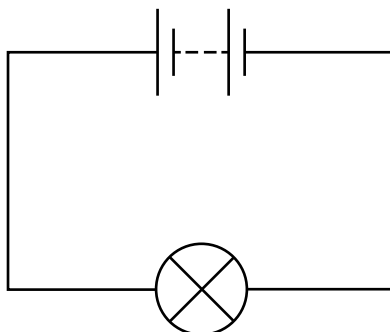

Fig. 4
- (b) Fig. 4 shows a simple circuit for a lamp.